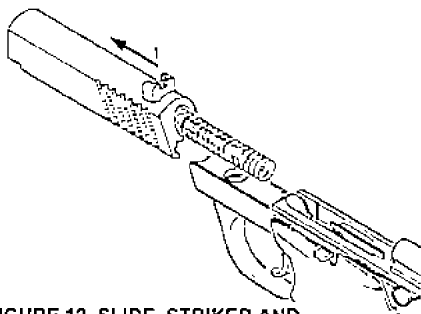

FIGURE 12. SLIDE, STRIKER AND SPRINGS REMOVAL
5. While still holding the slide, allow it to move forward along the guide rails and off the receiver . . . see Figure 12.